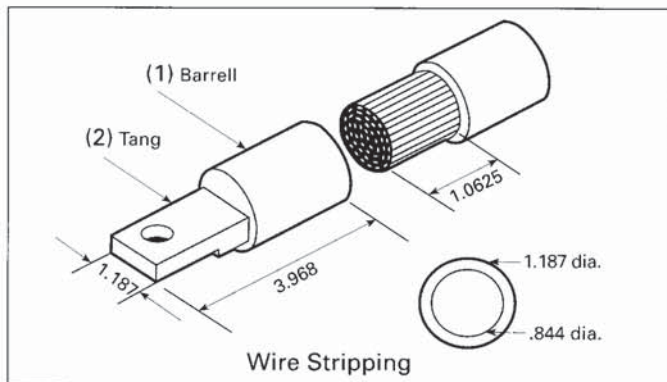

Figure 1
- Preform cables to final configuration and strip insulation back 1-1/16" on each conductor. Use an appropriate insulation stripping tool to avoid damaging the conductor. (See Figure 1.)
- Remove cap from compression connector and insert cable fully into barrel (1) (Figure 1) of connector.
- Insure that connector tang(s) (2) (Figure 1) are in their proper orientation prior to crimping. This helps avoid twisting of cables during installation.